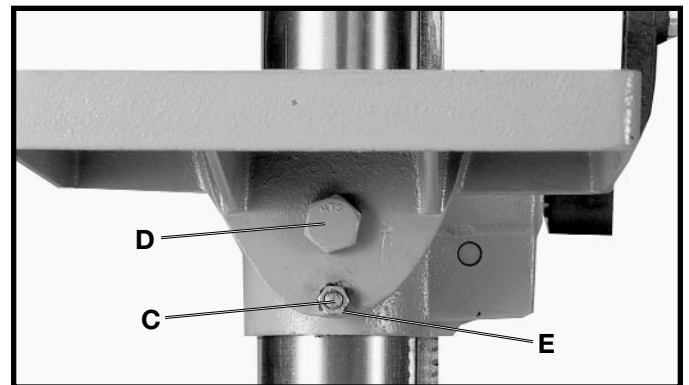
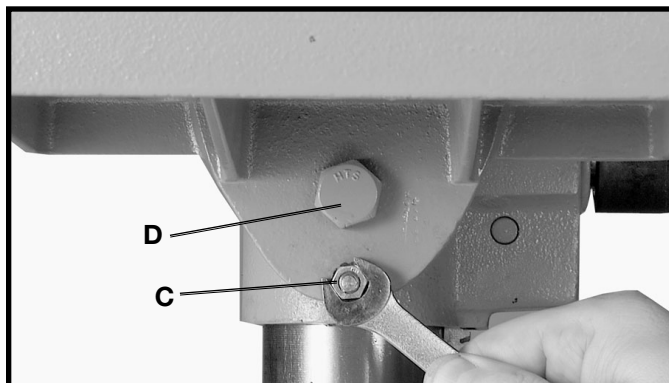

Fig. 25
Fig. 26
3. The table can be tilted right or left by pulling out and removing table alignment pin (C) Fig. 25, and loosening table locking bolt (D). **NOTE:** If pin (C) is difficult to remove, turn nut (E) clockwise to pull pin out of casting. Tilt table to the desired angle and tighten bolt (D).
4. When returning table to the level position, loosen pin (C) Fig. 26, and loosen locking bolt (D). Position the table to the 0 degree mark on the tilt scale and then replace pin (C) and tighten locking bolt (D) Fig. 25.